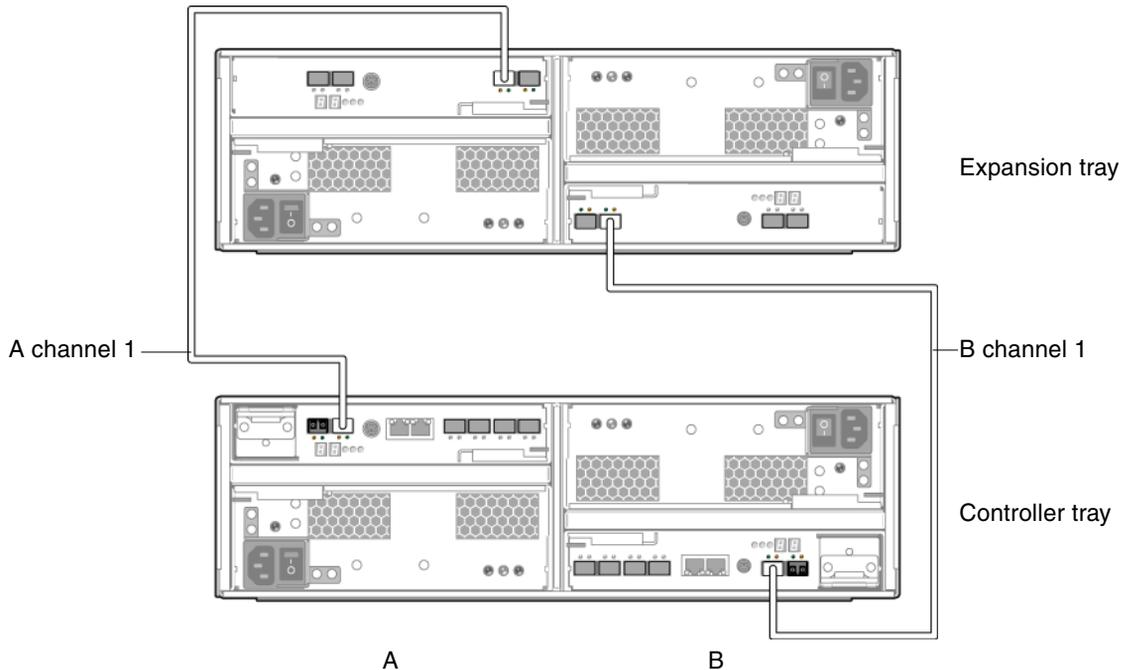

FIGURE 2-23 1x2 Array Configuration Cabling
3. Connect one FC cable between the Controller B channel 1 expansion port and the B-side port 1B of the expansion tray (FIGURE 2-23).
4. Connect one FC cable between the Controller A channel 1 expansion port and the A-side port 1A of the expansion tray (FIGURE 2-23).